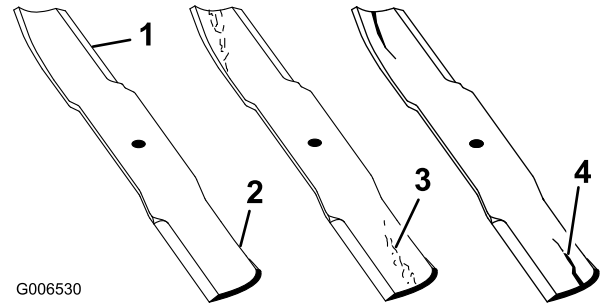

Figure 28
- Examine the cutting ends of the blade carefully, especially where the flat and curved parts of the blade meet (Figure 28). Since sand and abrasive material can wear away the metal that connects the flat and curved parts of the blade, check the blade before using the machine. If wear is noticed (Figure 28), replace the blade; refer to Removing the Cutting Blade.
If the blade is allowed to wear, a slot will form between the sail and flat part of the blade (Figure 28). Eventually, a piece of the blade may break off and be thrown from under the housing, possibly resulting in serious injury to yourself or bystanders.